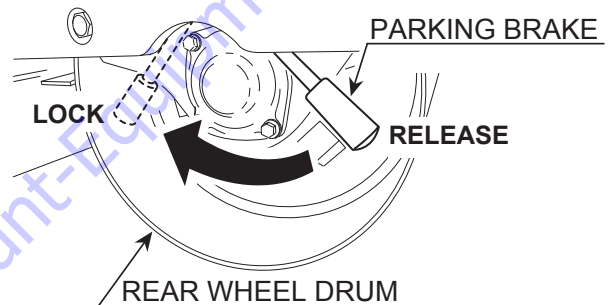

Figure 20. Parking Brake (Lock)
4. Lock the parking brake (Figure 20).